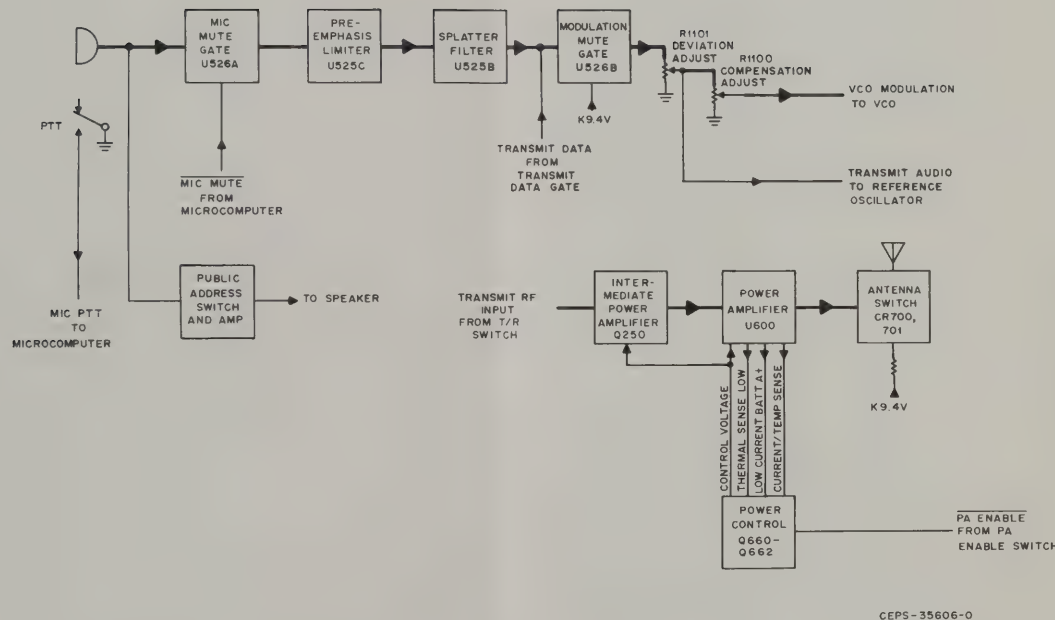

Figure 2. Transmitter Block Diagram
1.3 TRANSMITTER — GENERAL DESCRIPTION (Refer to Figure 2 Transmitter Block Diagram)